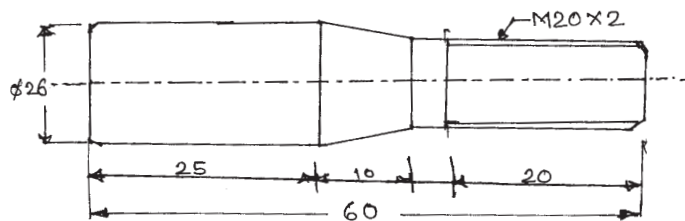

Fig.No.1 Gauge.
- Q1) Referring Fig. No. 1, design the set of plate types of cams for a single spindle automat machine. Assume suitable data of machining parameters for mild steel material. The bar stock is $\Phi 30 \times 65$ and 200 pieces are to be manufactured. Also draw the layout for turret cam. [18]